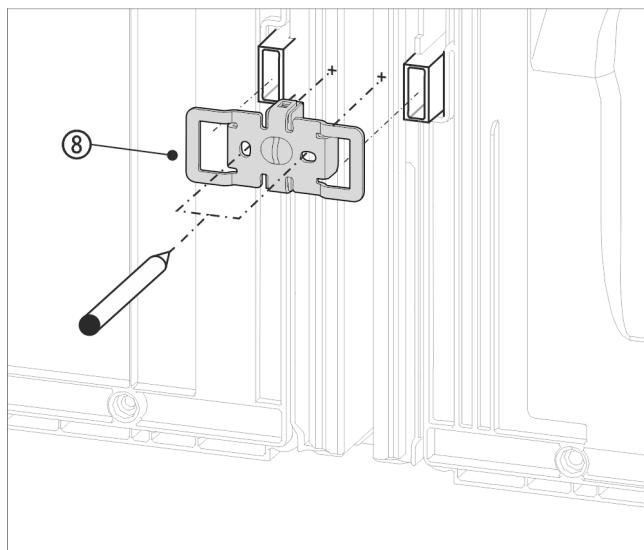

Fig. 14 Example illustration
- ▶ Slide the bracket Fig. 14 (8) on with the slots over the retainer for the wall spacers.